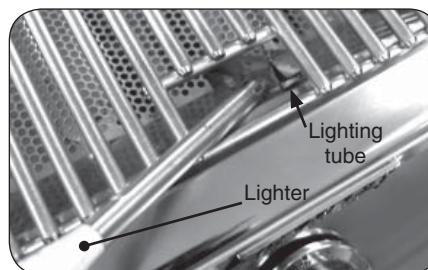

Fig. 17-2 - Manual lighting
2. Insert either a burning long-barrel butane lighter or a burning long-stem match through the cooking grid opening to the top of the lighting tube. (Fig. 17-2). For backburners, hold the flame against the surface of the backburner. For charcoal burners, hold the flame near the burner.
4. If the burner does not light, **immediately depress the knob and turn the valve to OFF**. **WAIT FIVE (5) MINUTES** before repeating steps 2 through 4 of the MANUAL LIGHTING instructions.